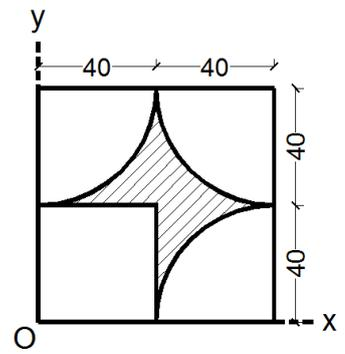

Fig. 3
- (c) Find centroid of the shaded area shown in fig.3 with reference to point 'O' **07**